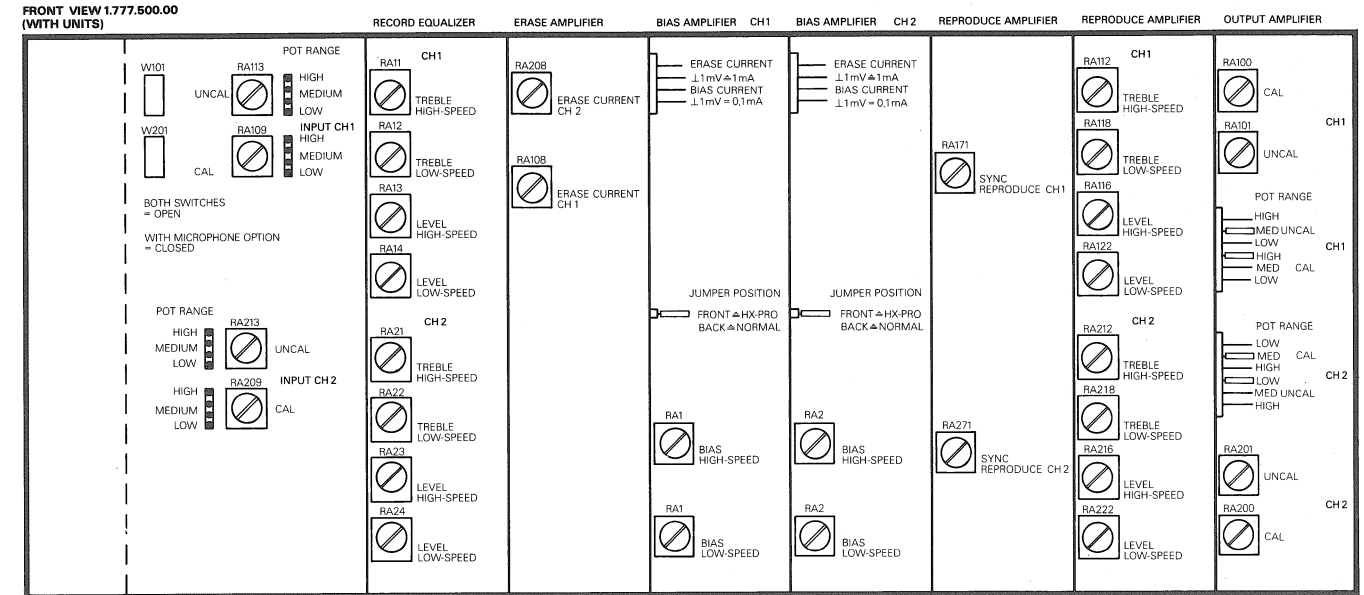

Fig. 20
- Play the previously recorded tape section and with the SYNC REPRODUCE trimmer potentiometers RA171 CH1 (RA271 CH2) on the PREAMPLIFIER BOARD (Fig. 20) adjust to a level of 0 dBu (IEC) or +4 dBu (NAB).